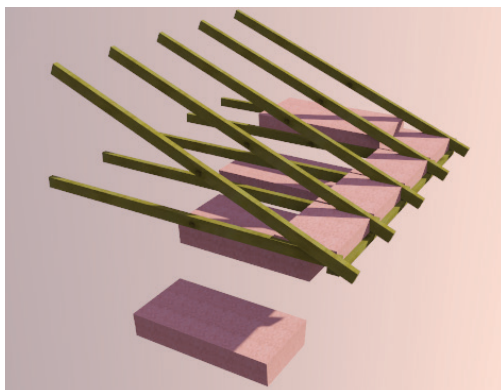
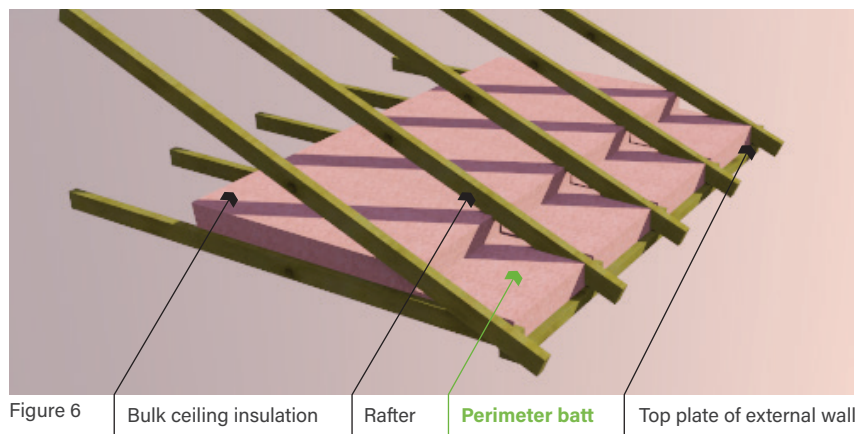

Figure 5
Figure 6
- Install the ceiling insulation in from the underneath being sure to have it abut the Perimeter batt snugly and also ensuring a 20mm gap underneath the sarking or roof sheet (Fig. 5 & Fig. 6).